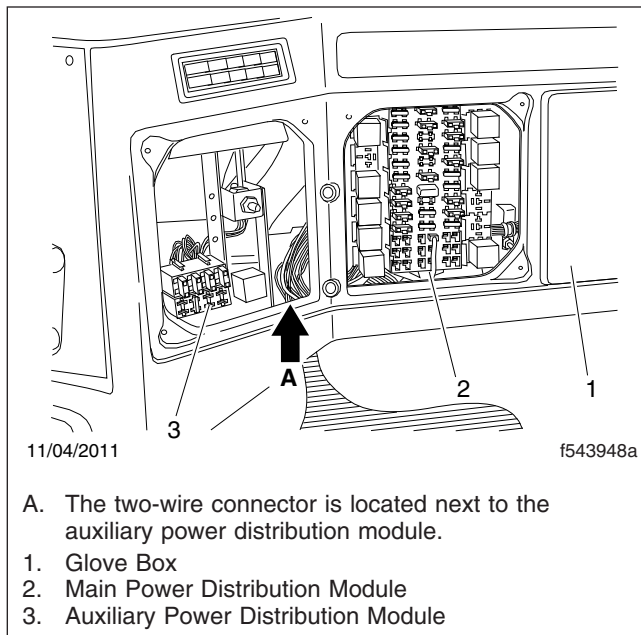

Fig. 2.3, Passenger-Side Electrical Access Panel (removed)
1. Remove the passenger-side electrical access panel, located next to the glove box. See Fig. 2.3.